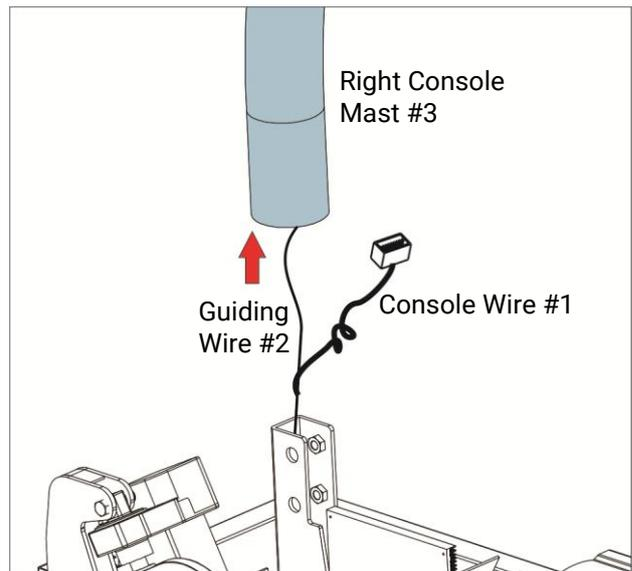

Fig 2.5-2A
- 1) Thread the **Console Wire #1** on the **Guiding Wire #2** and through the **Right Console Mast #3**. (Fig2.5-2A)